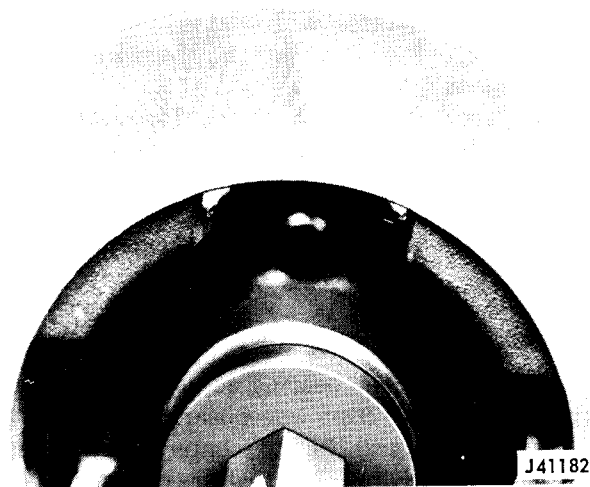

Fig. 9-42 Correct Surface Finish—Nondirectional Cross-Hatch Pattern
**NOTE:** Rotor finish should be 20 to 60 micro-inches and not be directional. After turning the rotor in a disc brake lathe, flat sanding discs should be used as a final step in the refinishing procedure to provide the desired microfinish and cross-hatch pattern on the rotor surface (fig. 9-42).